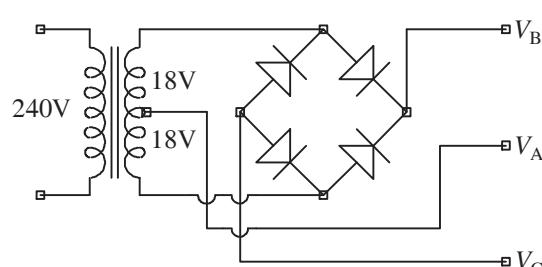

Figure 3
- Q3** For the circuit of figure 3 what are the peak values of the voltage differences:
Q4 The circuit of figure 3 is to be used to supply an amplifier which requires nominally balanced positive and negative power supplies with respect to zero. The amplifier demands a current of 2A and at this current the ripple voltage must be less than 1V pk to pk on each supply rail.